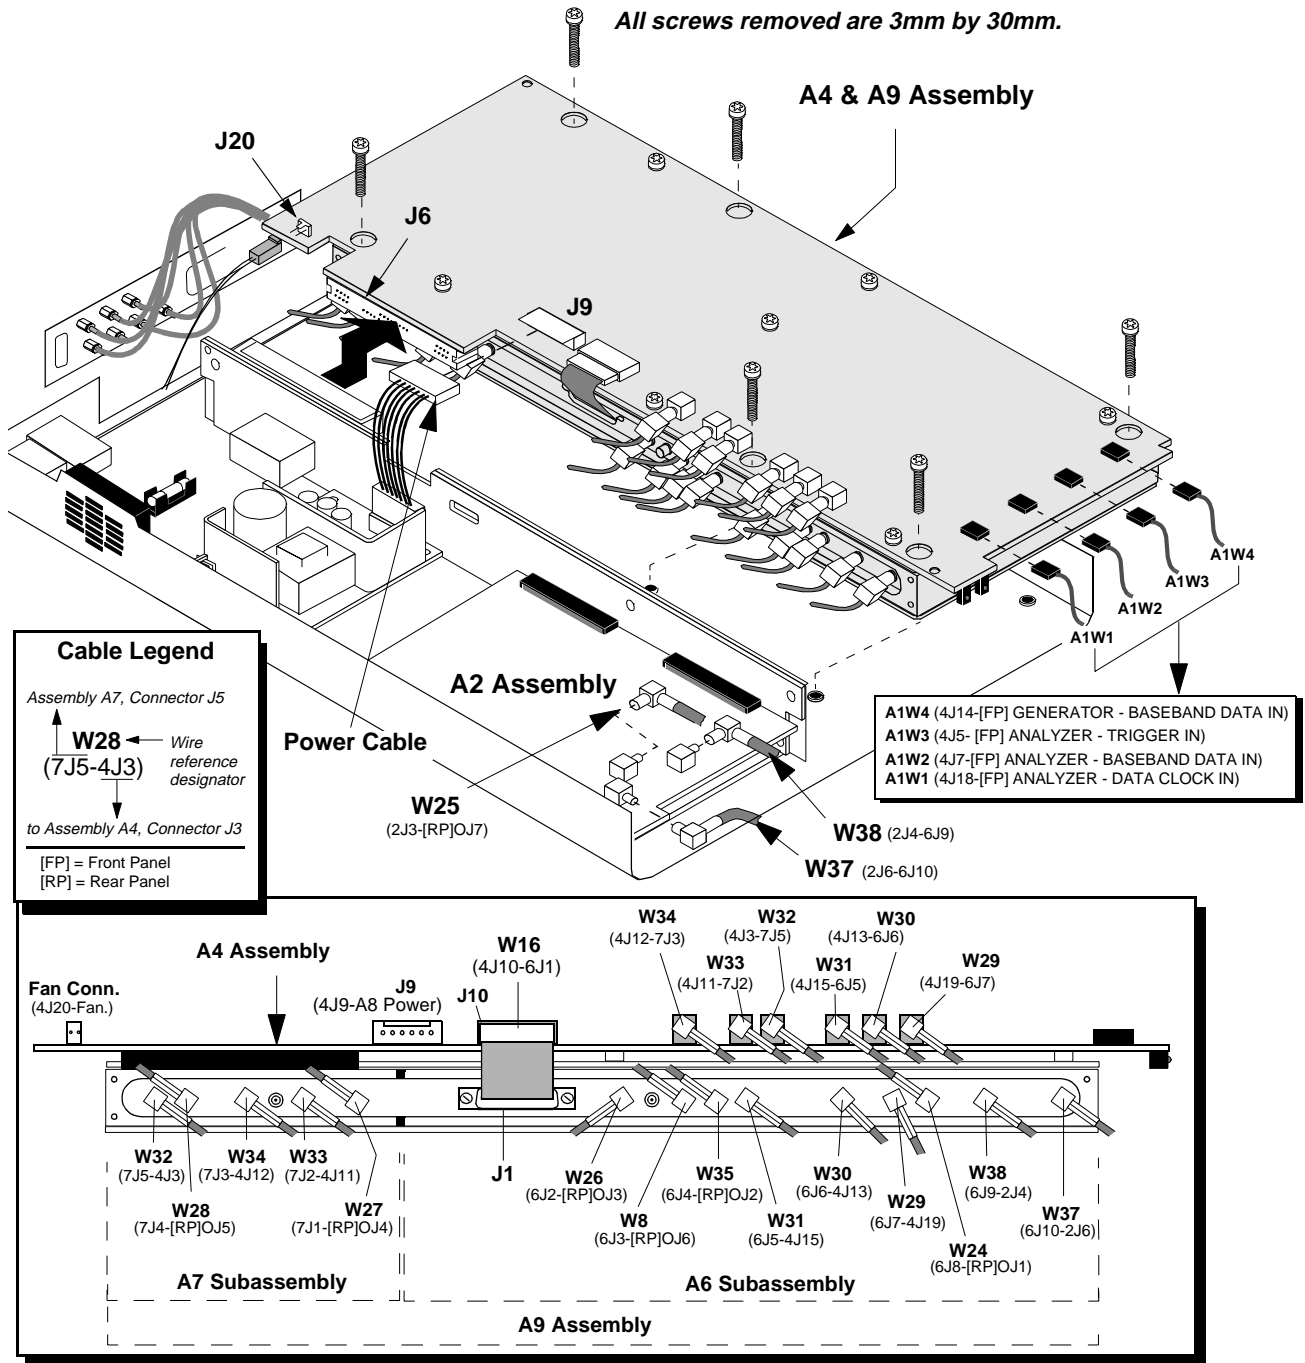

Figure 27 Removing the A4/A9 Assembly
4. Remove the 6 screws that secure the A4/A9 assembly to the deck, see figure 27 on page 75.
5. Disconnect all the connectors and cables shown in figure 27 from the A4 and A9 assemblies. Removing the SMB connectors from the A2 assembly is optional. To disconnect the SMB connectors from the A4/A9, you will have to disconnect the A4/A9 assembly from the A3 Motherboard (see step 6).
1. Use figure 27 to help you reconnect the SMB coaxial connectors on the A4/A9 and A2 assemblies. Cable clips identify each SMB connector. The cable clips identify the assembly and "J" connector on the assembly that the SMB connector goes to. For example, SMB cable with cable clips "9J5" means the SMB connectors goes to A9 assembly, connector J5.